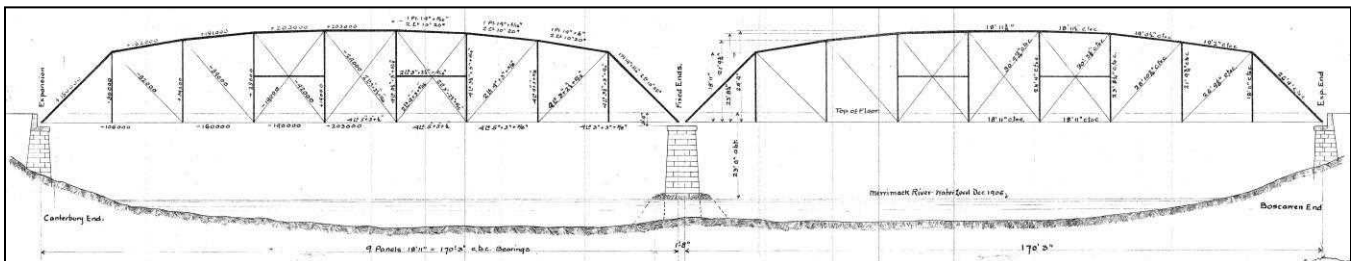

FIGURE 6: Boscawen-Canterbury 132/085 (1907). Clip from original plans by John Storrs, sheet 1 of 4, 1907 (NHDOT Plan files).
- FIGURE 6: Boscawen-Canterbury 132/085 over Merrimack River, 1907, drawing.